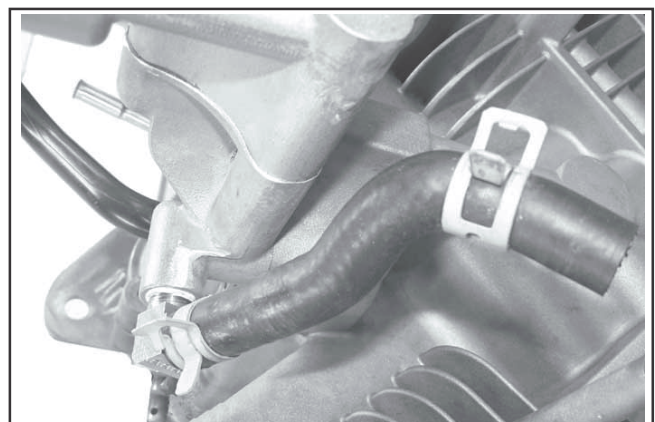

Figure 10-71. Lower Oil Cooler Hose Details.
1. To aid assembly, install the lower oil cooler hose onto the oil filter housing prior to installation of the backing shroud assembly, and secure with a clamp. See Figure 10-71.